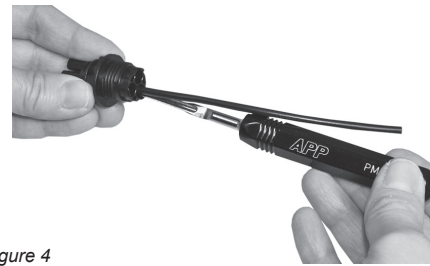

Figure 4
- c. Insert the contact from the rear side of the connector, using insertion tool part number PM1002G1. (See figure 4)